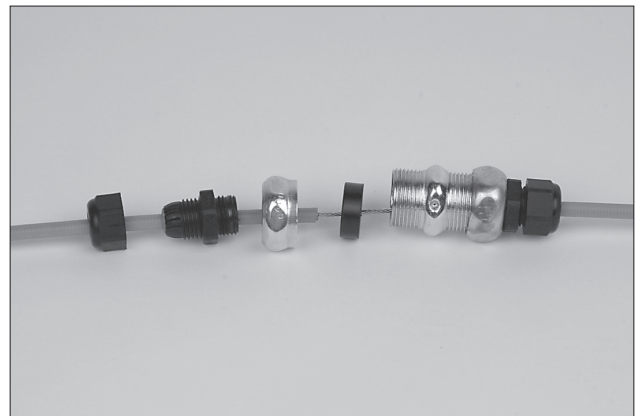

FIGURE 5-104
8. Push the wire rope completely through the remaining section of the flexible conduit. See Figure 5-104.